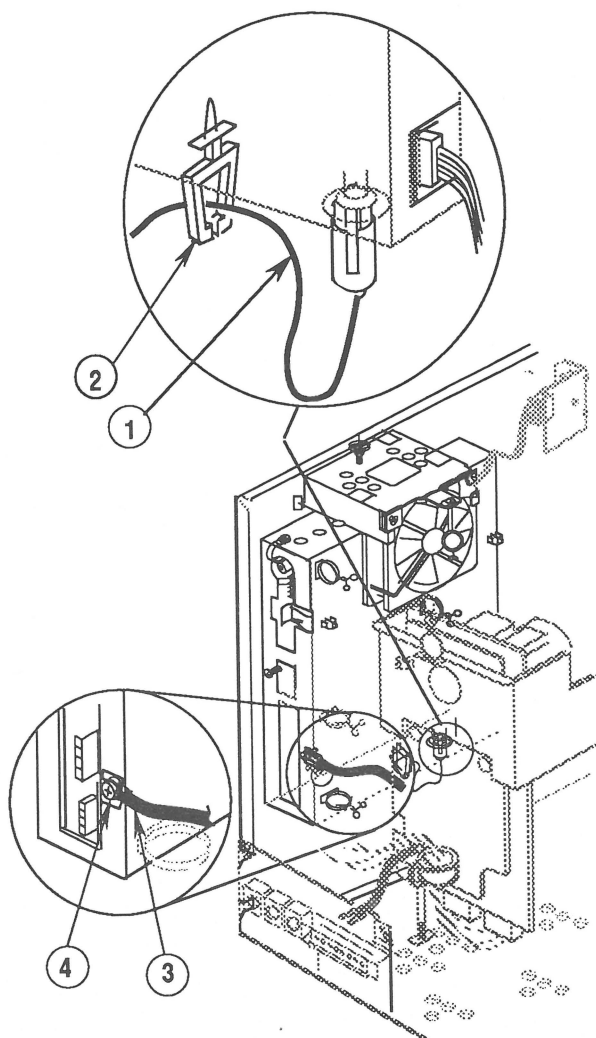

FIGURE 35
8. Reconnect the video cable (Figure 35, #1) to the bottom of the video board, and replace the cable in the cable clamp (Figure 35, #2).
9. Reconnect the black ground cable (Figure 35, #3) to the video board case and tighten the screw (Figure 35, #4).